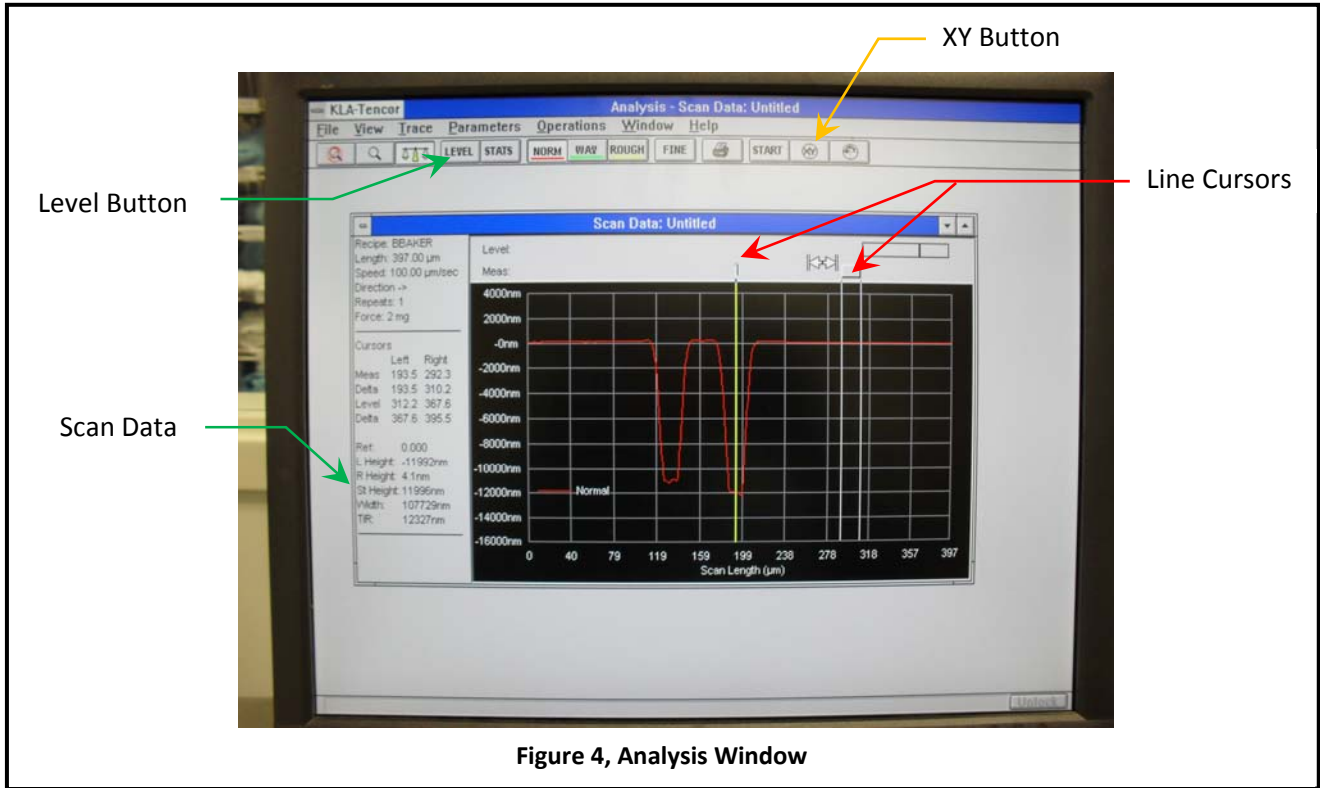

Figure 4, Analysis Window
7.2.1 Click the Level button. See *Figure 4, Analysis Window*.